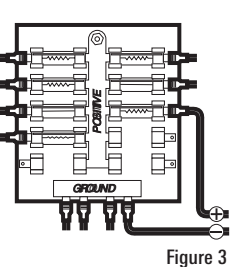

Figure 3
- 1a. If a fuse terminal is available, use crimp-on type electrical connectors (not included) that match the terminal on the fuse panel. Attach the black wire to ground (-), and the red wire to positive (+) 12 VDC power (Figure 3). Install a 3 Amp fuse (not included) for the protection of the unit. Humminbird® is not responsible for over-voltage or over-current failures.